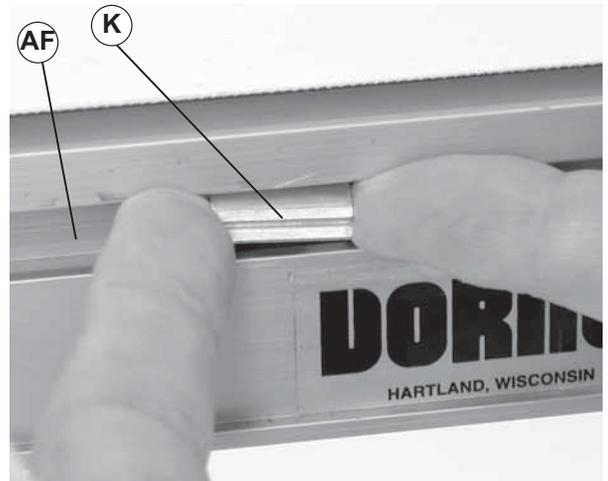

Figure 11
- a. Roll a drop-in t-bar (Figure 11, item K) into conveyor t-slot (AF).
<p>Failure to secure screws (Figure 11, item AE) may cause conveyor sections to drop down causing severe injury.</p> <p>TIGHTEN SCREWS (Y) AFTER ADJUSTMENT.</p>